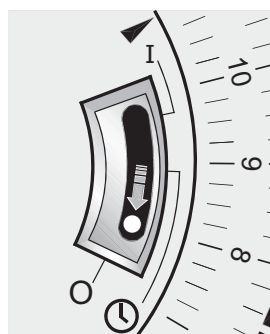

Fig. 6
Set the I - ① - O slide switch on the timer (Fig. 6) to :
To set the time of day, rotate the timer dial clockwise (indicated by the arrow) until the correct time of day is opposite the reference mark ► (see Fig. 6). The 24-hour clock is used ; e.g. time shown for 4 pm is '16' (16:00hrs).